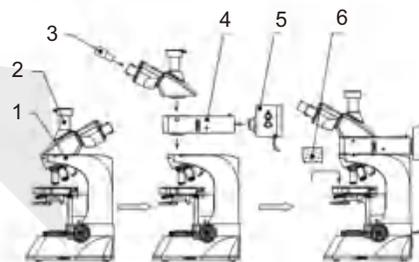

Fig. 1
11. Schematic diagram of installation process as shown in fig.1.